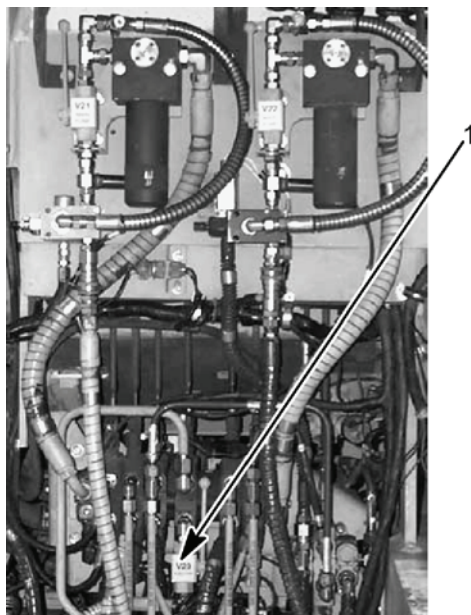
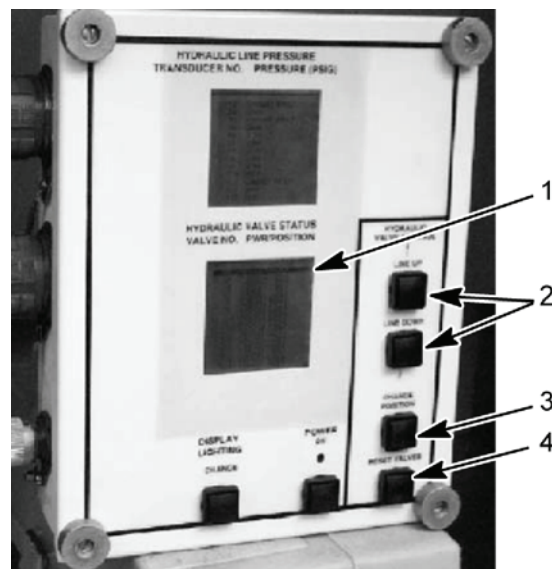
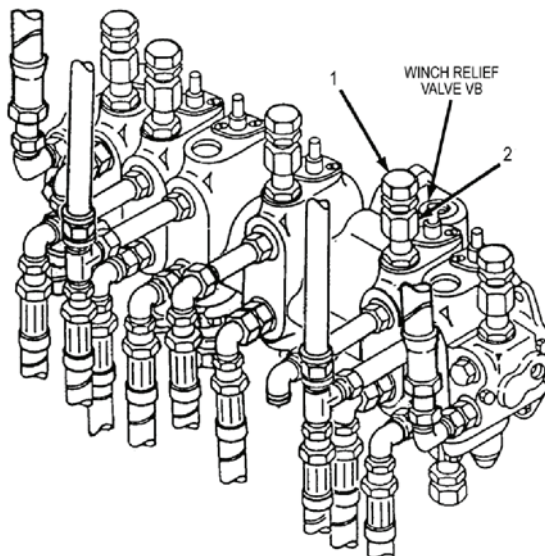

Figure 8. DCV Bank
Figure 9. HDC Control Box
Figure 10. Winch Relief Valve
- With engine off, disable ejector; manually close the ejector inhibit ball valve V23 (Figure 8, item 1) on the DCV bank. Using LINE UP or LINE DOWN button (Figure 9, item 3), select V1 on the HDC display (Figure 9, item 2). Close V1 on the HDC display (Figure 9, item 2) by selecting the CHANGE POSITION button (Figure 9, item 4) on the HDC control box.
- Select V14 on the HDC display (Figure 9, item 2). Close V14 on the HDC display (Figure 9, item 2) by selecting the CHANGE POSITION button (Figure 9, item 4) on the HDC control box.
- Have assistant start engine and hold WINCH CONTROL in PAY IN position. Read transducer T-1 hydraulic pressure on the HDC display (Figure 9, item 1).
- While observing transducer T-1 hydraulic pressure on the HDC display (Figure 9, item 1), loosen jam nut (Figure 10, item 2) and turn relief valve adjustment screw (Figure 10, item 1), clockwise to increase pressure; counterclockwise to decrease pressure until desired pressure is obtained. Tighten jam nut (Figure 10, item 2).